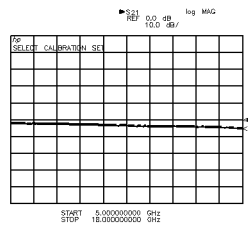

Figure 2-6. Display with Thru Connected (S_{21} Calibration)
5. When the trace is stable, indicating that the thru is properly connected, press **THRU** to measure the transmission signal path frequency response. See the example in Figure 2-6.